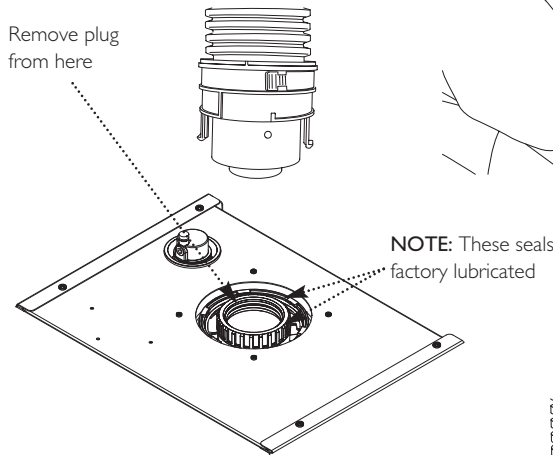
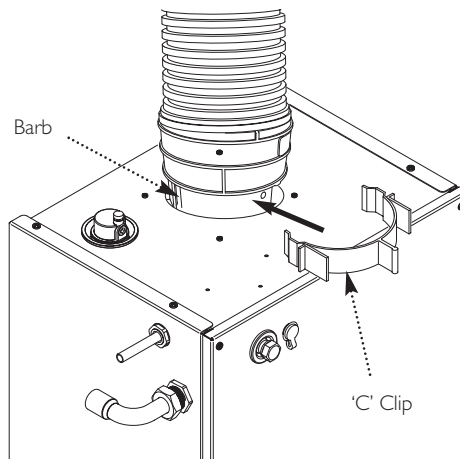

Fig. 24
Fig. 24a
12. Remove the plastic plug from the boiler flue outlet. Grasp the adaptor and locate it into the boiler, ensuring the two large barbs lock into position under the boiler top panel (Fig. 24) Fit the 'C' clip to the adaptor to secure the flue. **It must fit into the barbs and clip securely into place** (Fig. 24a).